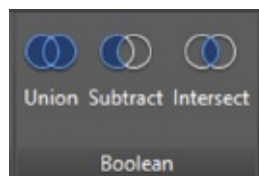

FIGURE 20.26 Select the Union tool.
1. Zoom out so that you can see the entire unit. Click the Union tool in the Solid tab's Boolean panel (see Figure 20.26). You can also enter **UNI**↵.